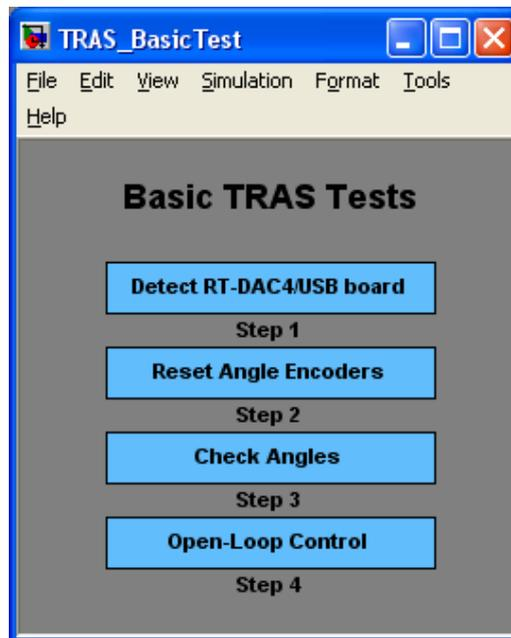

Fig. 2.2 The *Basic Tests* window
- Double click the *Basic Tests* button. The *Basic Test* window appears (Fig. 2.2)